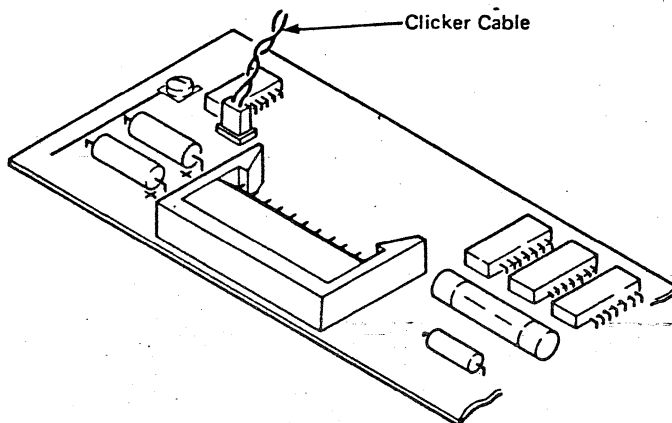

Figure 4-6. Clicker Cable
2. Disconnect the clicker cable connector, shown in Figure 4-6, from the Keyboard Logic card assembly.